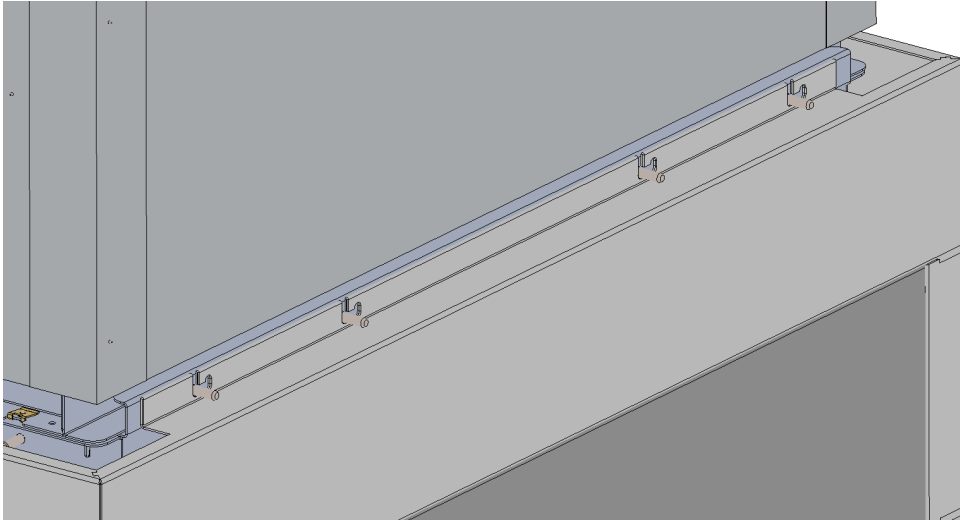

Figure 57 – Diffuser box pin location.
2. Locate the pins with the grooves on both sides of the assemblies. All 8 pins should be located – see figure 57.